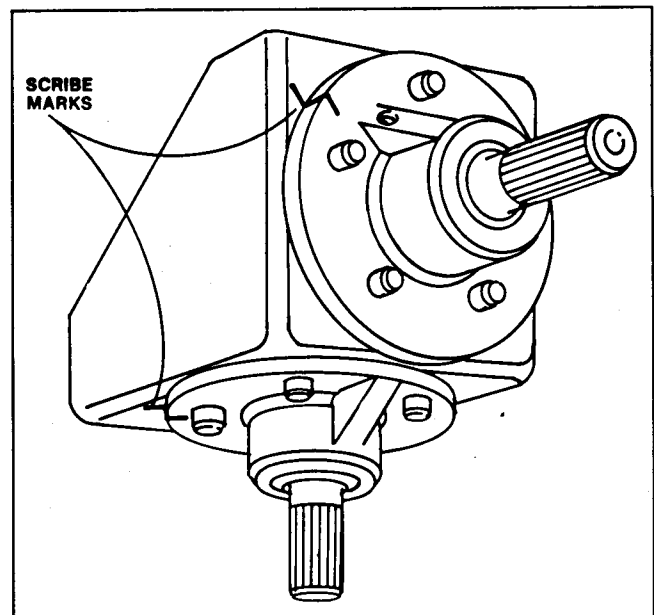

Figure 39
3. Scribe a mark on the input and output shaft housings and gearbox to aid assembly operation (Fig. 39).